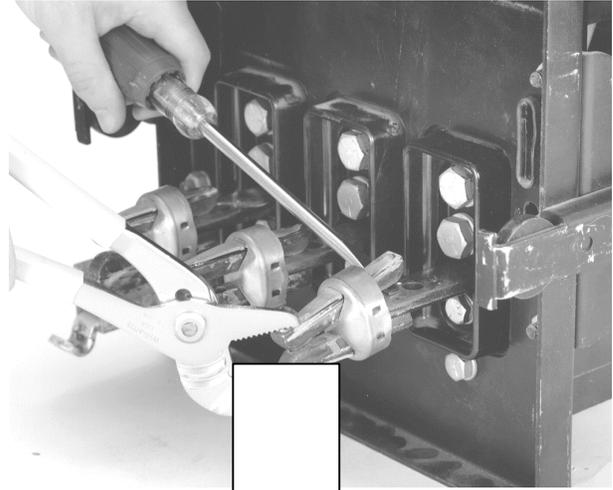

Figure 2. Draw-out finger removal.
1. Remove and save the load terminal draw-out fingers on all draw-out breakers. They can be easily removed by inserting a flat-blade screwdriver under the back edge of the top finger and prying the fingers back, as shown in Figure 2.